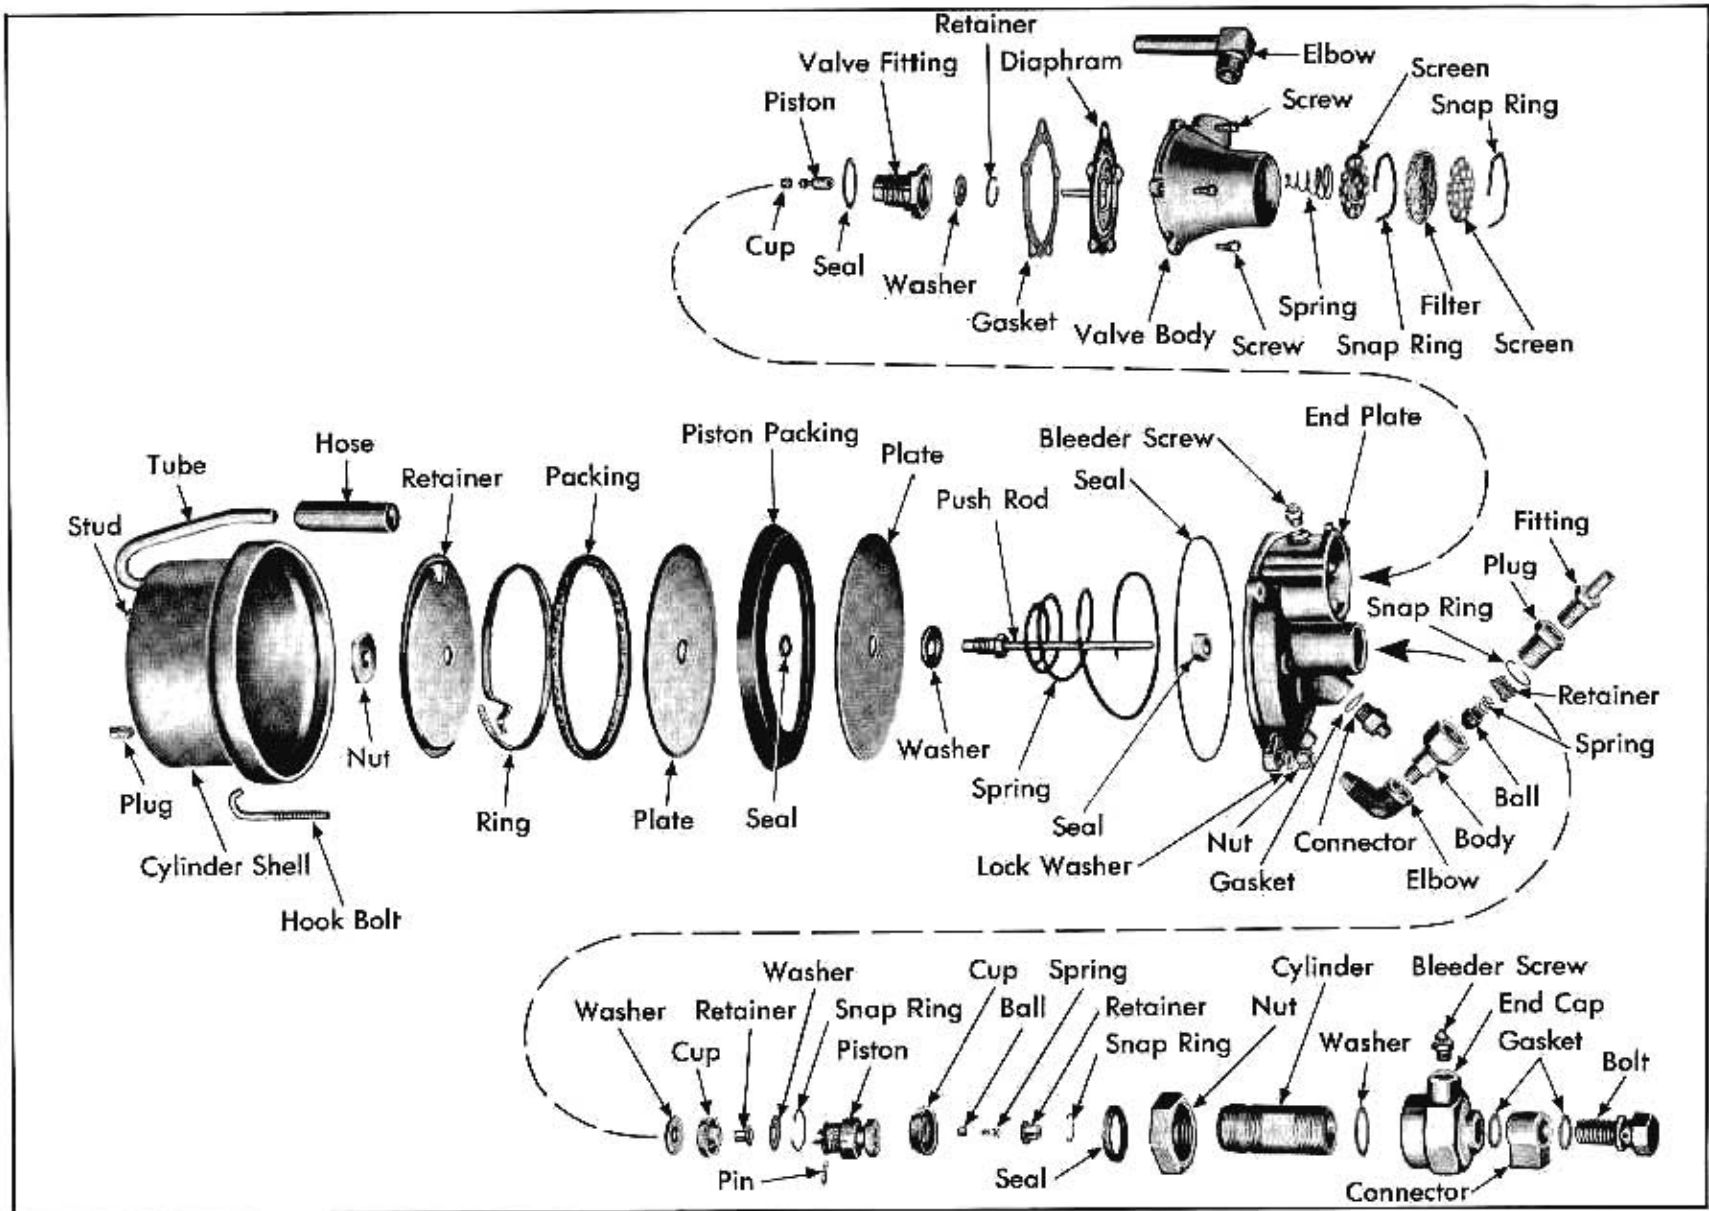

Fig. 9-9 Power Brake - Disassembled
1. Loosen hydraulic cylinder nut and unscrew hydraulic cylinder assembly from the end plate. Fig. 9-9.